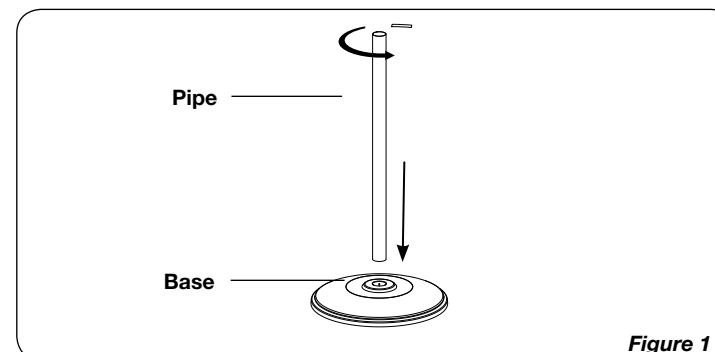

Figure 1
- With a twisting motion, insert the end of the Pipe into hole in Base. Turning pipe while pushing will assure pipe is fully seated in base. (Figure 1)